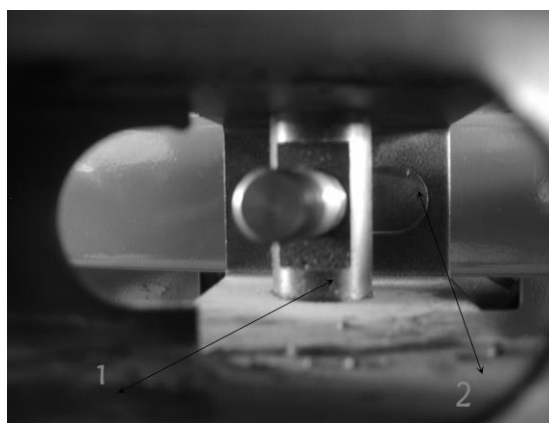

FIG 10
3.2.5 Position the bead breaking arm shaft bushing into the bead breaking support plate on the body (FIG 9-1) to align the hole and install the bead breaking bolt (FIG 9-2) and assemble the nut to lock (FIG 8-4) . Insert the piston rod(FIG10-2)through the hole of the bead breaking slide bushing(FIG10-1). The surface of the slide bushing should be outwards (FIG 10) . Assemble the removed nut (FIG 8-1) into the front end of the piston rod. The nut will be assembled. The distance from the edge of the bead breaking blade to the bead breaking rubber is 30~40mm (FIG11) . Hang the spring. (FIG9-3)。